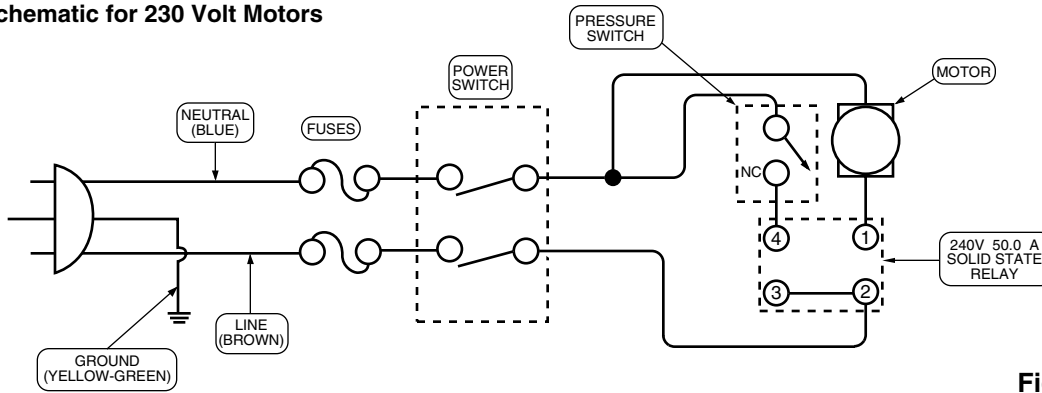

Figure 3A
2. Disconnect the Power Supply Cord (#46) from; a) the Fuse Holders on #61, and, b) the green wire connected to the grounding screw (#42). Refer to the Electrical Schematic, Figure 3A.
5. Reconnect wires according to Figure 3A.